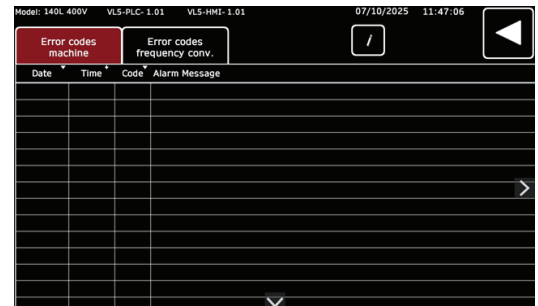

Figure 19-3.
4. Select the “Alarms” button to display any operating errors that have prevented the mixer from starting and descriptions of machine error codes based on the code number. (Figure 19-3).